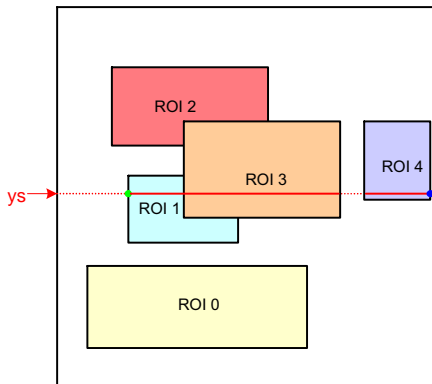

Figure 28. Scanning the Image Array with Five Windows
Figure 28 illustrates a practical example of a configuration with five windows. The current position of the
- The read pointer is not necessarily incremented by one, but depending on the configuration, it can jump in y–direction. In Figure 28, this is the case when reaching the end of ROI0 where the read pointer jumps to the y–start position of ROI1